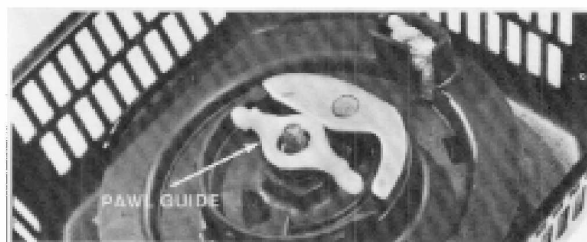

Figure 3-31
3. Lift off the friction plate and expose the starter pawl guide. See Fig. 3-31. Note how the guide is installed and remove it.